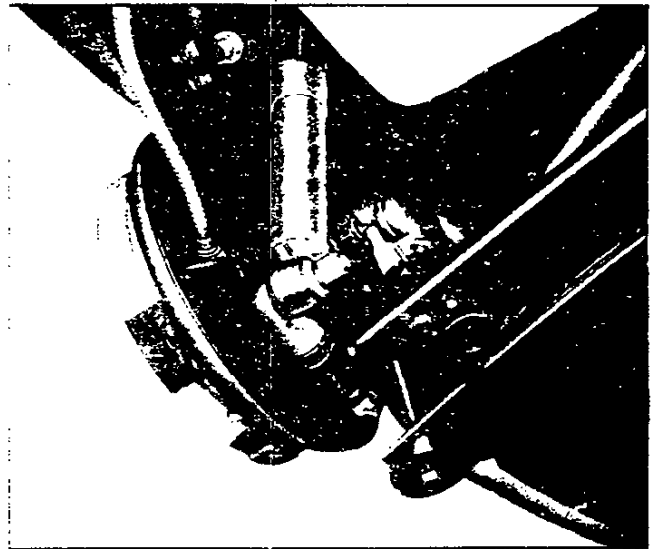

Fig. 5—Checking Spindle End Play
4. Mount dial indicator on torque arm inboard surface and rest pointer on spindle end (fig. 5).